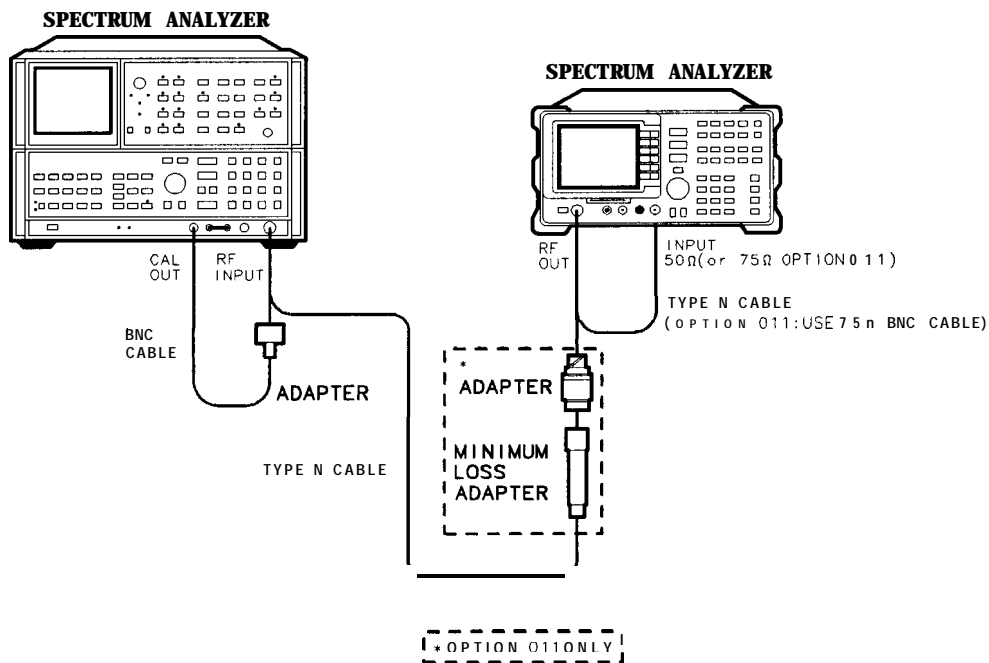

Figure 1-25. Harmonic Spurious Outputs Test Setup
1. Connect the Type N cable between the RF OUT 50 Ω and INPUT 50 Ω connectors on the spectrum analyzer. See Figure 1-25.
7. Connect the Type N cable from the tracking generator output to the microwave spectrum analyzer RF INPUT. See Figure 1-25.